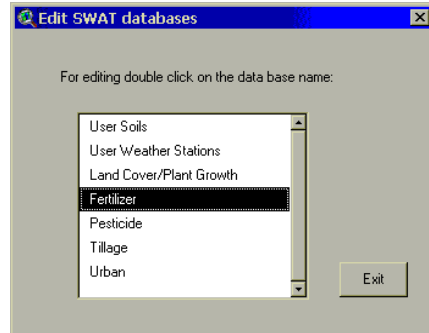

Figure 4.10
2. A dialog box will appear with a list of the databases (Figure 4.10).